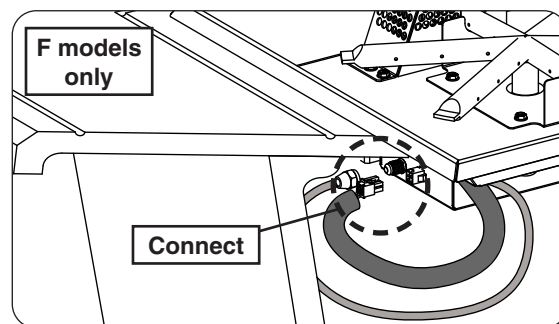

Fig. 31-1 Connect pilot line and electrical
7. **F Models:** connect pilot line and electrical to control box (See Fig. 31-1).